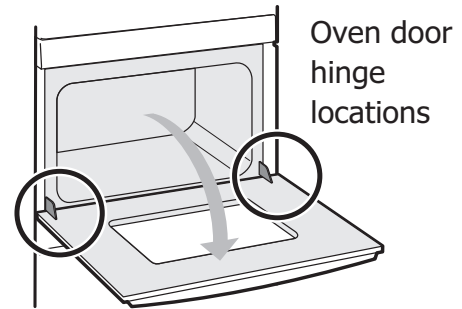

Figure 18: Door hinge location
3. Fully open the oven door, horizontal with floor (Figure 18).